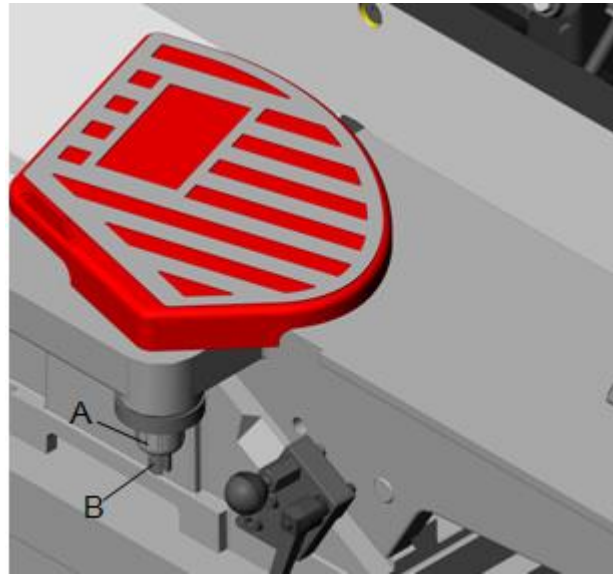

FIGURE 6
2. Turn knob (A) counterclockwise to create tension on spring, and hold it there. See Figure 6
3. Insert guard post (B) down through hole in front of ledge.
4. Slightly turn knob (A), if necessary, until the guard seats itself, and the spring engages the slot at the end of the guard post.